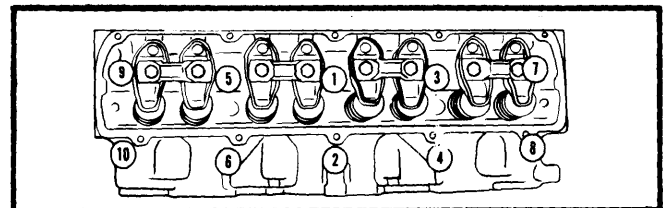

Fig. 2 Cylinder Head Tightening Sequence
3) Clean and dip cylinder head bolts in engine oil and tighten in two steps. See Fig. 2.